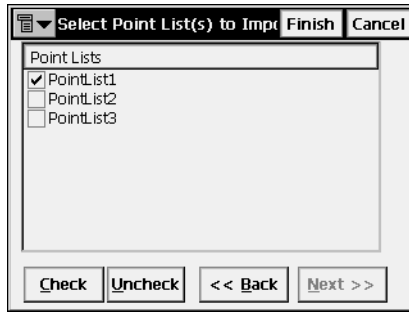

Figure 5-6. Select Point List(s) to Import
- In the *Select Point List(s) to Import* screen select the point lists (if available) to import (Figure 5-6).